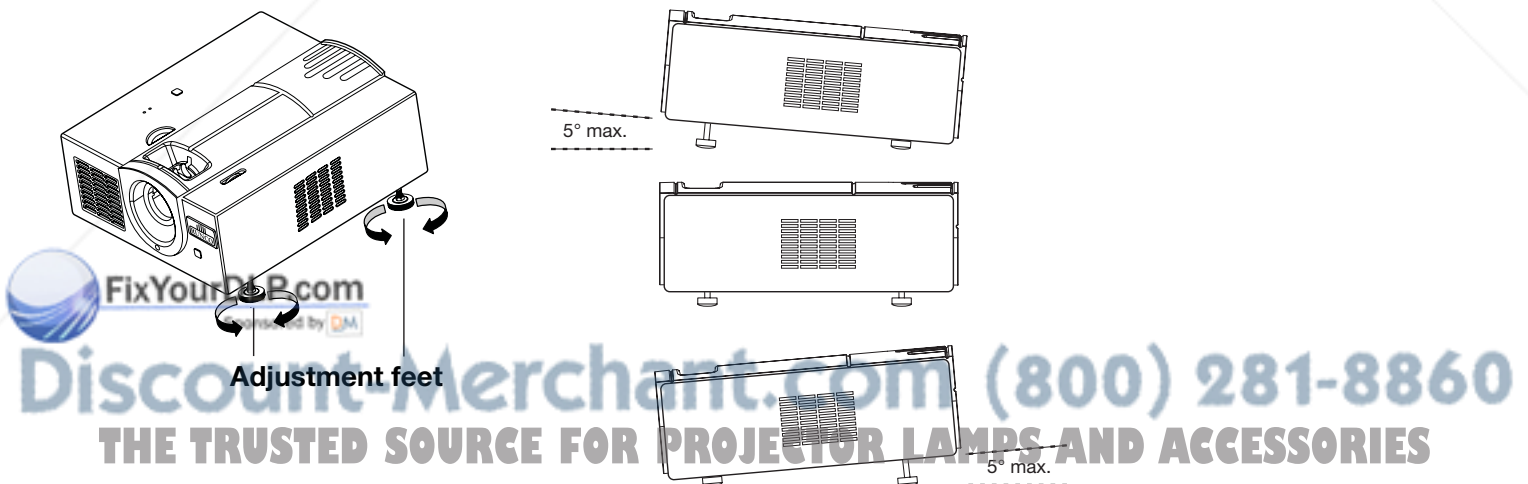

Figure 4-1. Adjusting the Feet
When the CL-410/CL-420 is installed upright, you can adjust the projector height or projection angle by turning the four adjustable feet on the bottom of the projector; see Figure 4-1. This is useful for correcting the angle of projection when the projector is placed on an uneven surface or when the screen is at an angle. You can tilt the projector up to five (5) degrees up or down by adjusting the feet.